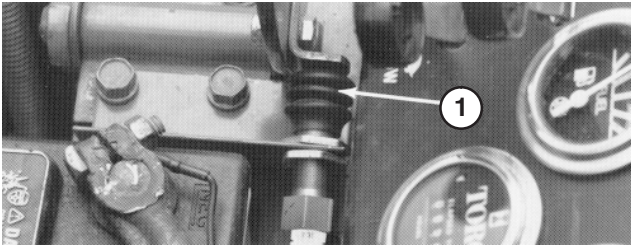

Figure 61
3. Remove boot from button end of PTO switch (Fig. 61). Retain boot for reinstallation. Separate switch wire connectors.